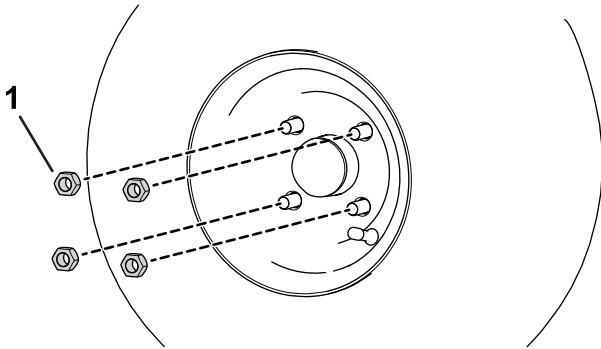

Figure 4
1. Use the previously removed lugnuts to secure the wheel to the hub (Figure 4).